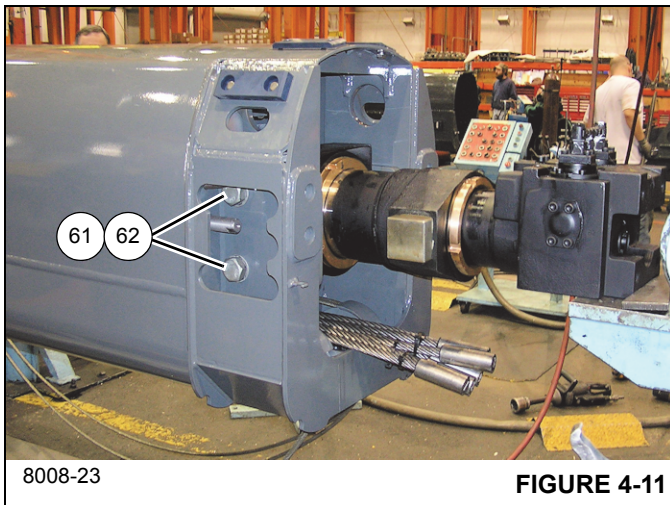

FIGURE 4-11
42. Remove the five bolts (62) and flat washers (61) securing the trunnion plate (60) to the inside of tele 2 (3) (left and right sides) (see Figure 4-11).